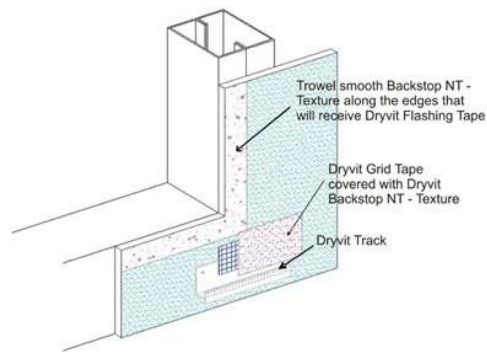

Fig. 18
- 4) While the Backstop NTX - Texture is still wet, using a trowel or spatula, smooth out the Backstop NTX - Texture around all window and door perimeters and other areas- Figure 18.